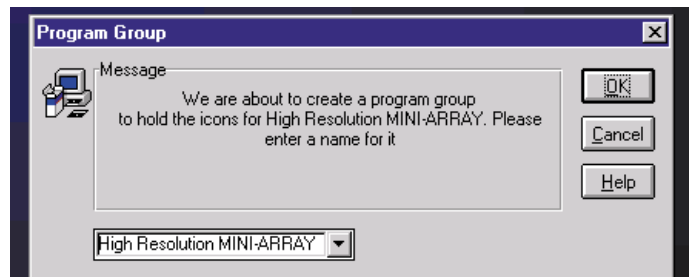

Figure 4-4. MINI-ARRAY software installation: Program Group screen
6. A Program Group dialog box appears (Figure 4-4); select **OK**. (Or if other than the High Resolution MINI-ARRAY group is desired, change it and then click **OK**.)